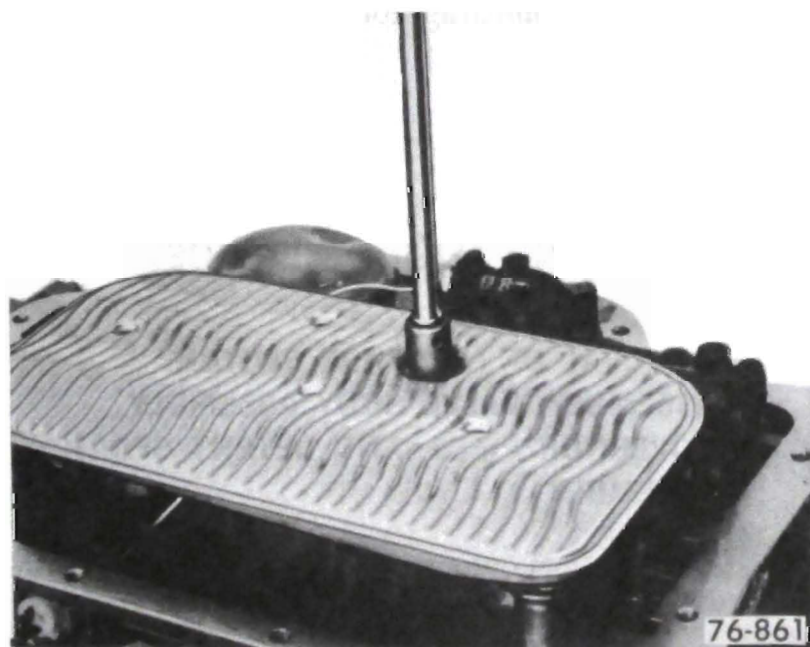

Figure 76-47
7. Remove the filter assembly retainer bolt. See Figure 76-47.
2. Install filter and intake pipe assembly attaching filter to valve body assembly with retainer bolt. Torque to 10 lb. ft. See Figure 76-47.